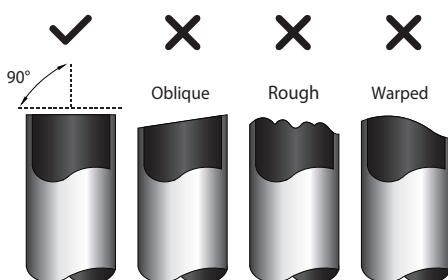

Fig. 7.2
- Make sure that the pipe is cut at a perfect 90° angle. Refer to Fig. 7.2 for examples of bad cuts